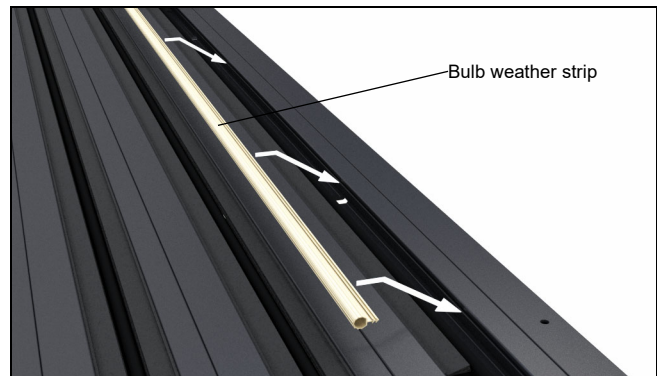

Figure 7
5. Flip sill assembly so top side is up. Insert bulb weather strip into kerf, adjacent to the pile weather strip. Install sill track if shipped loose. See figure 7.